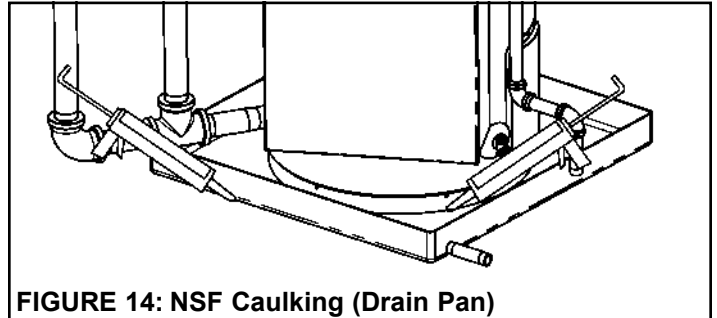

FIGURE 14: NSF Caulking (Drain Pan)
4. Seal the heater base to the drain pan and the drain pan to the floor with the sealant listed above. Be certain that there are no gaps or openings in the seal (See Figure 14).